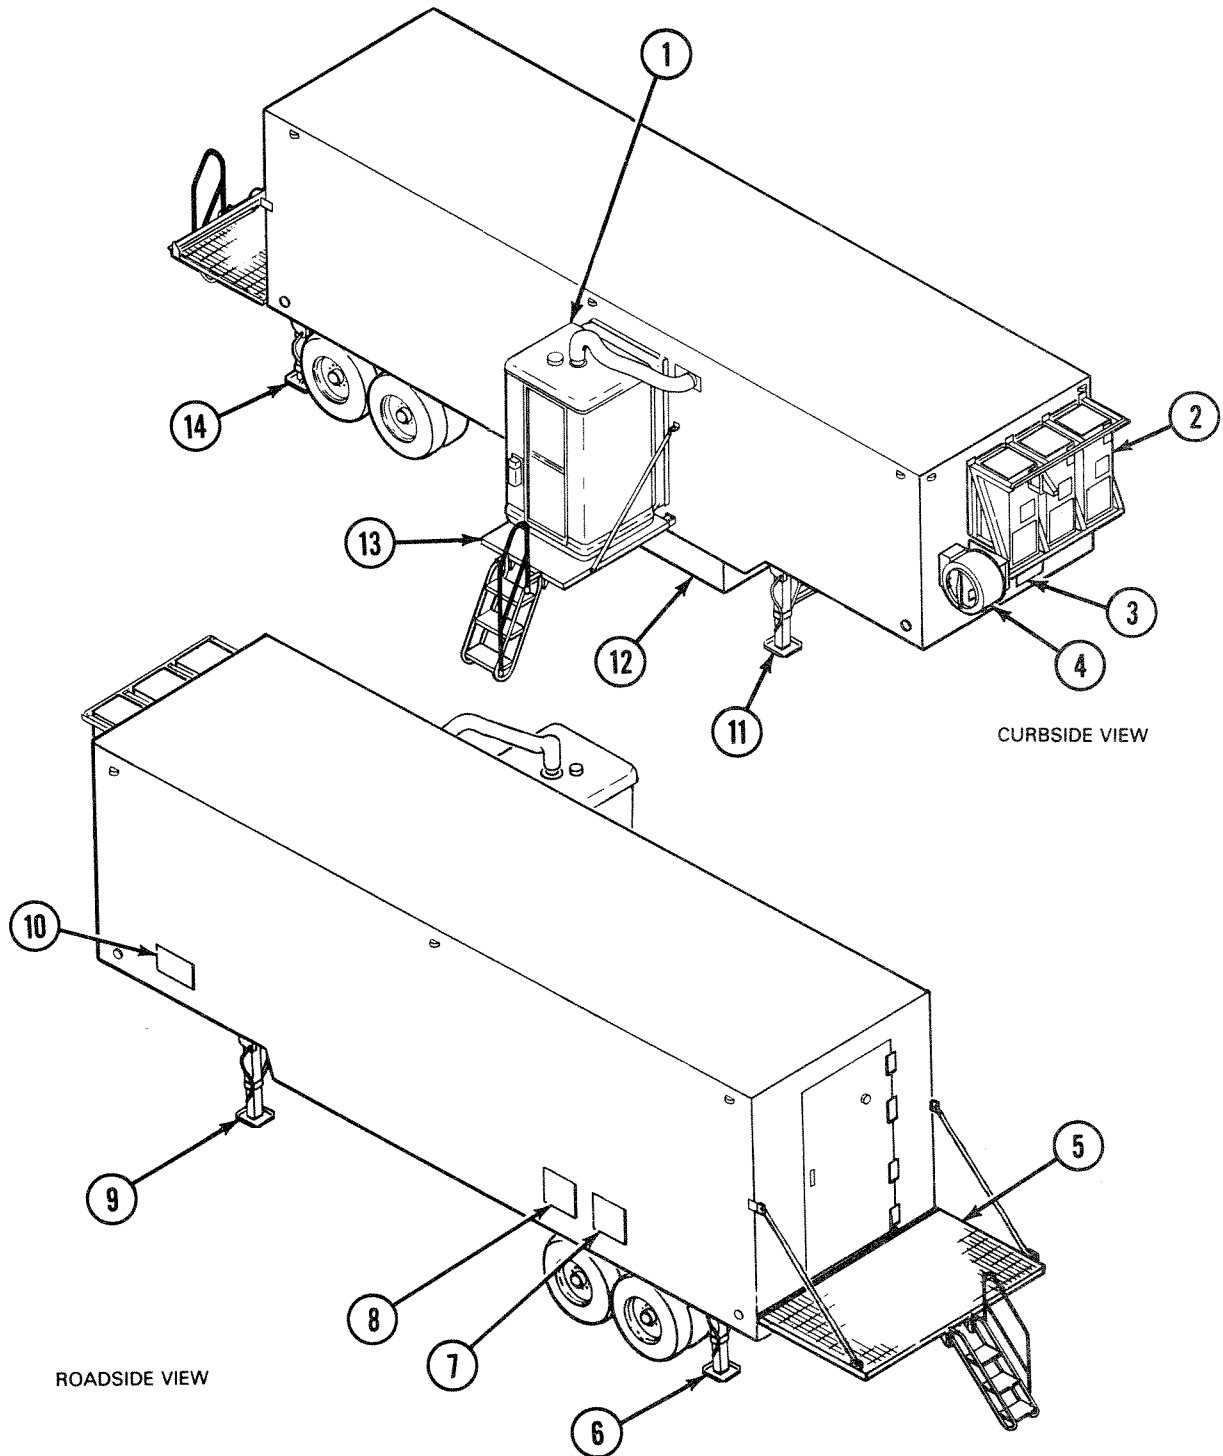

Figure 2-43. SCTS Major Exterior Features
a. *Exterior Features.* Figure 2-43 shows SCTS major exterior features.